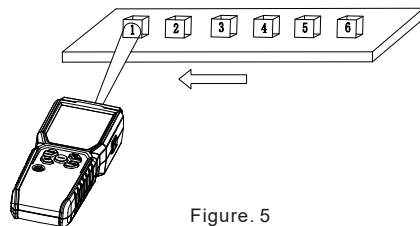

Figure. 5
2. Non-Contact---REV (Figure 5)